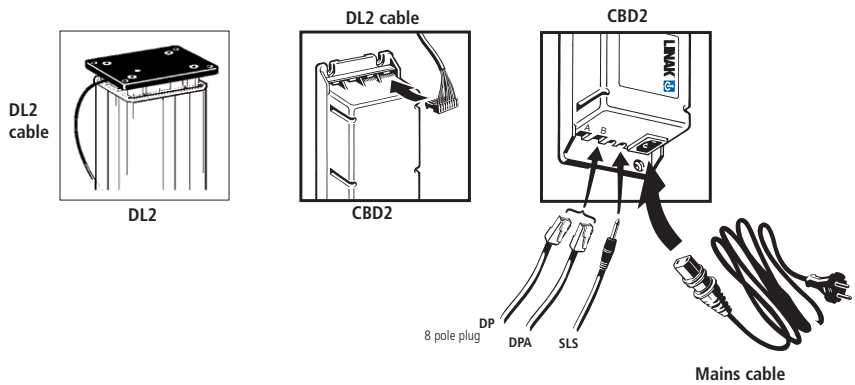

Figure 10
The DESKLINE® system is to be connected as shown on figure 10 and 11. *The DL2 is to be connected to the socket on the control box by means of the motor cable, which is supplied with an 8-pin plug.* The connection of the DL2's are on the same side of the control box. See figure 10.
In the worst case the switches in the control box will short-circuit, which will damage the CBD2 (see figure 10).
*The control (DP/DPA/DPB) is to be connected to port B on the control box - the opposite side of the DL2 column (see figure 10). The connection is made by means of a 6 or 8 pole modular jack plug. Up to 2 SLS (Safety Limit Switches) can be connected to the control box on the opposite site of the lifting units. The connection is made by means of DC mini jack plugs (see figure 10).*